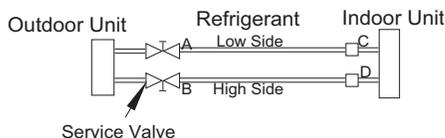

Fig. 21 – Service Valve
1. Completely tighten flare nuts A, B, C, D, connect manifold gage charge hose to a charge port of the low side service valve. (See Fig. 21.)